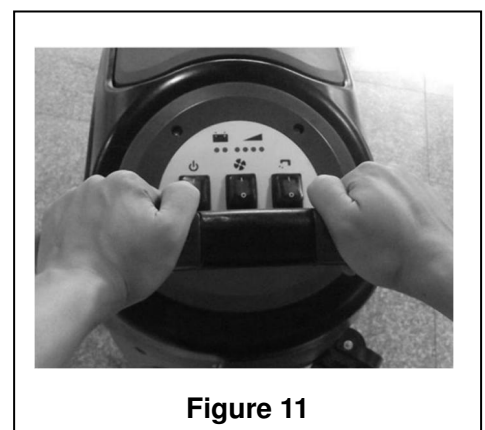

Figure 11
2. Hold the on / off switch (1) (**Figure 11**), push to move the machine, and start the scrubbing.